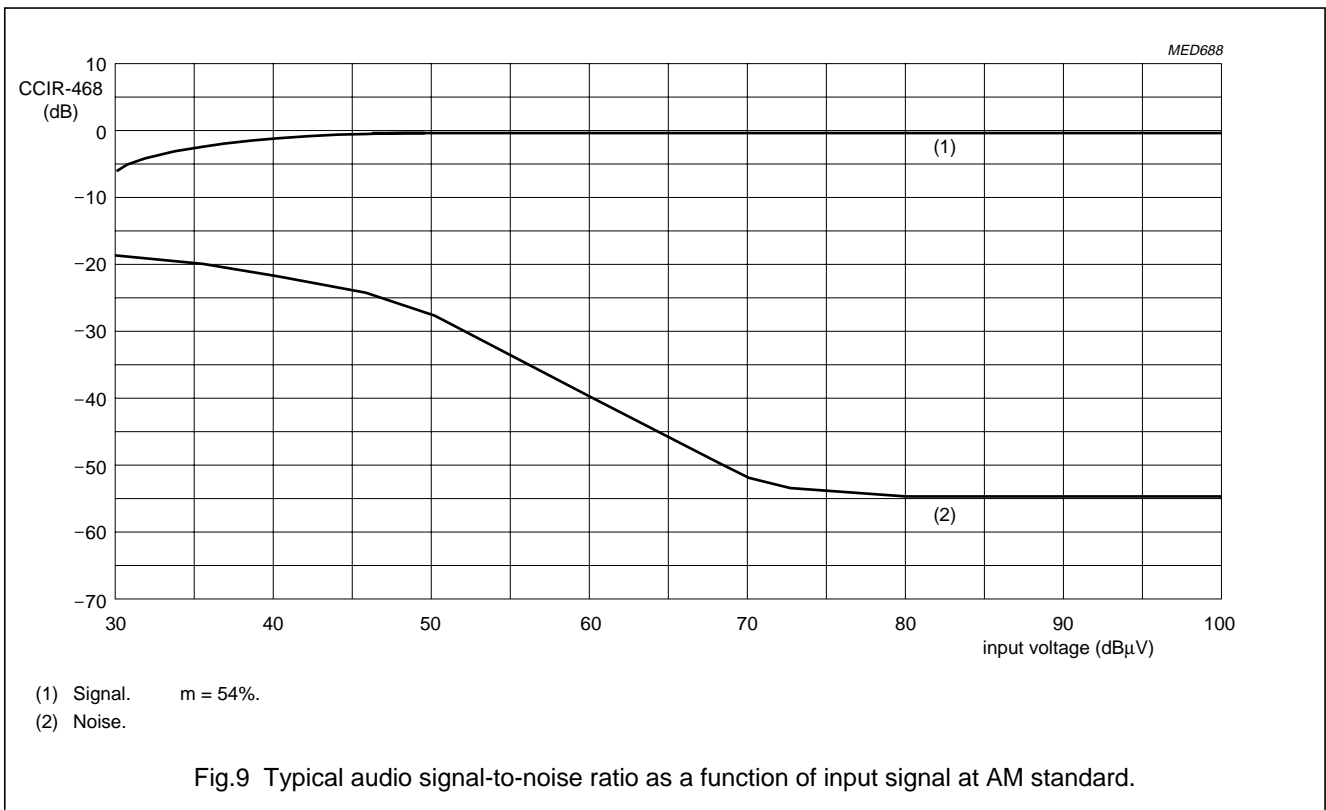

Fig.9 Typical audio signal-to-noise ratio as a function of input signal at AM standard.
| S/N (W) | weighted signal-to-noise ratio | "CCIR 468-4"; see Fig.9 | 47 | 53 | – | dB |